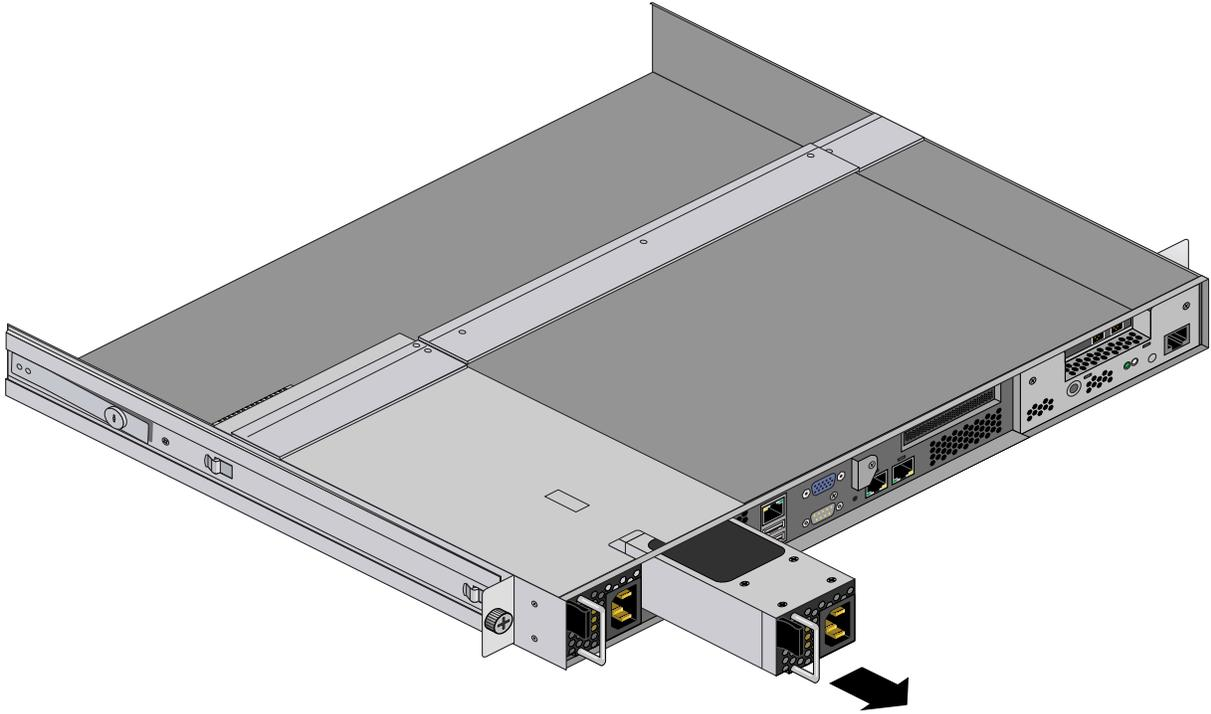

Figure 4-6 650-Watt Redundant Power Supply Removal Example
2. Push the release tab on the front of the power supply inward. See Figure 4-6 on page 36.